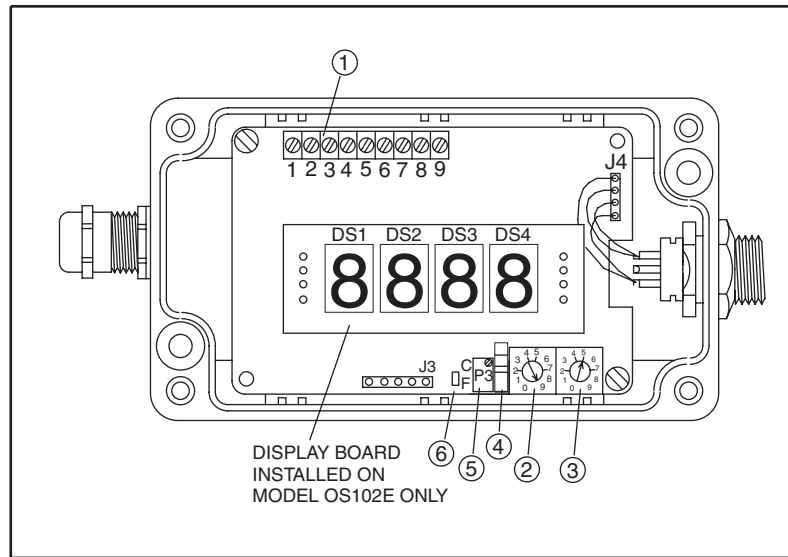

Figure 3-1. Main PC Board
The Main Board is shown in Fig. 3-1. Here are the important components on the board:
- ✓ The slide switch (SW1) on the main board is set to real time (Fig. 3-1).
- ✓ The emissivity adjustment on the main board is set properly (Fig. 3-1).
- ✓ The temperature display is set to °F or °C (Fig. 3-1)